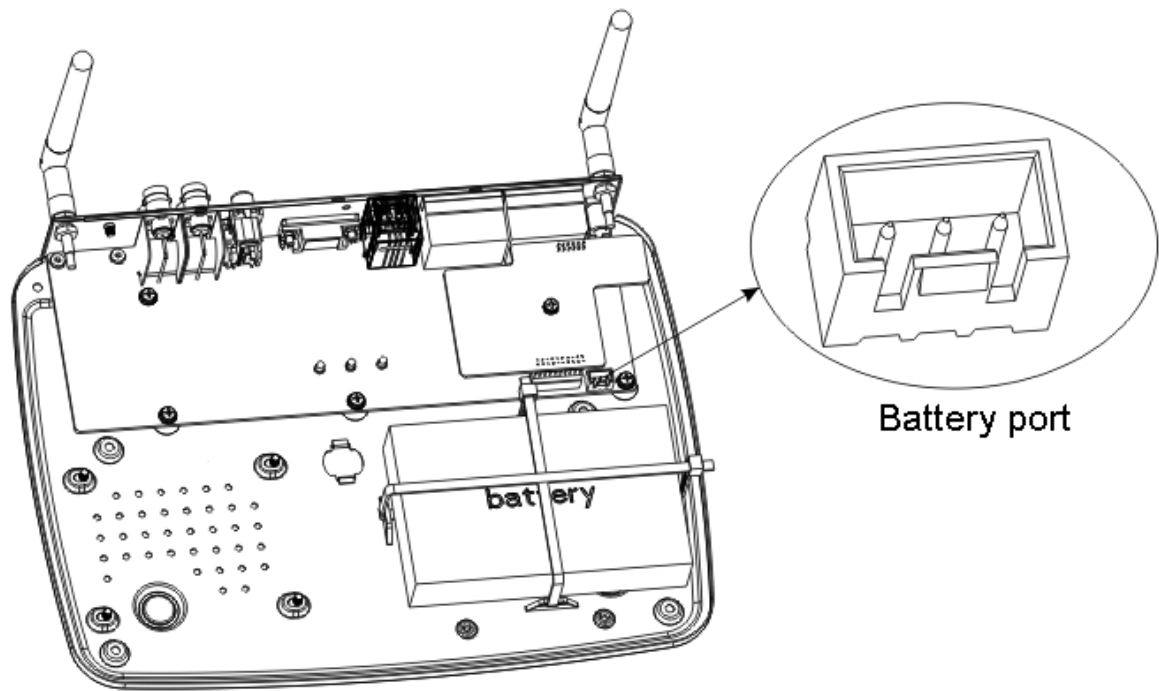

Figure 2-3
Step 3. Insert battery and lines into battery port on device, see Figure 2-3.